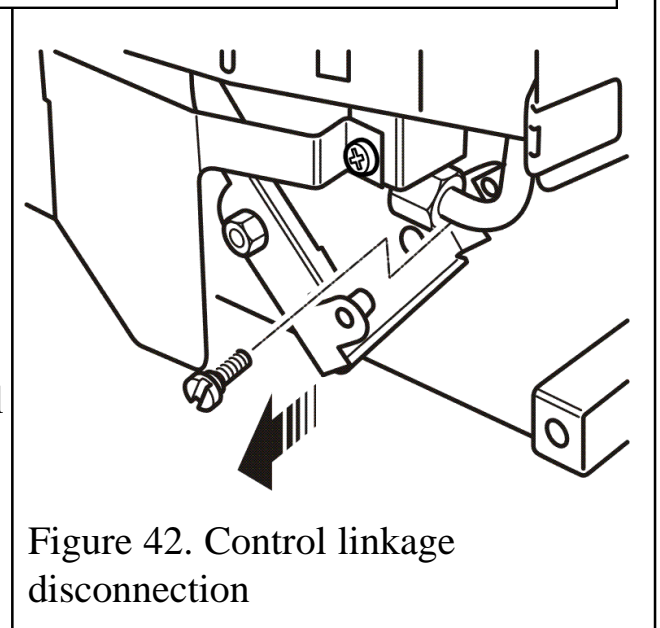

Figure 42. Control linkage disconnection
2. Detach the control-linking bar from the control pivot bracket by removing the knurled screw, which joins the control linking bar to the control pivot unit (See figure 42).